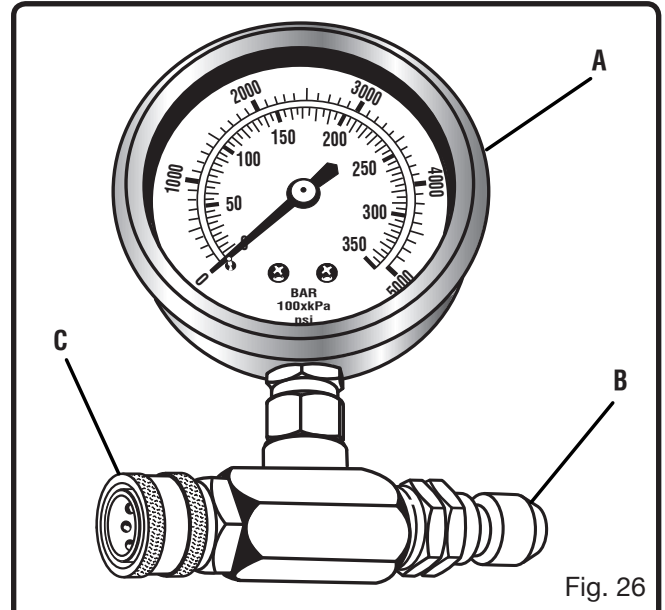

Fig. 26
- Attach a (A) high pressure gage that has a (B) male and (C) female 3/8 quick disconnect on it to the outlet of the pump. The gage must be rated to over 5000 PSI and have a discrimination of not more than 100 PSI. See Figure 26.